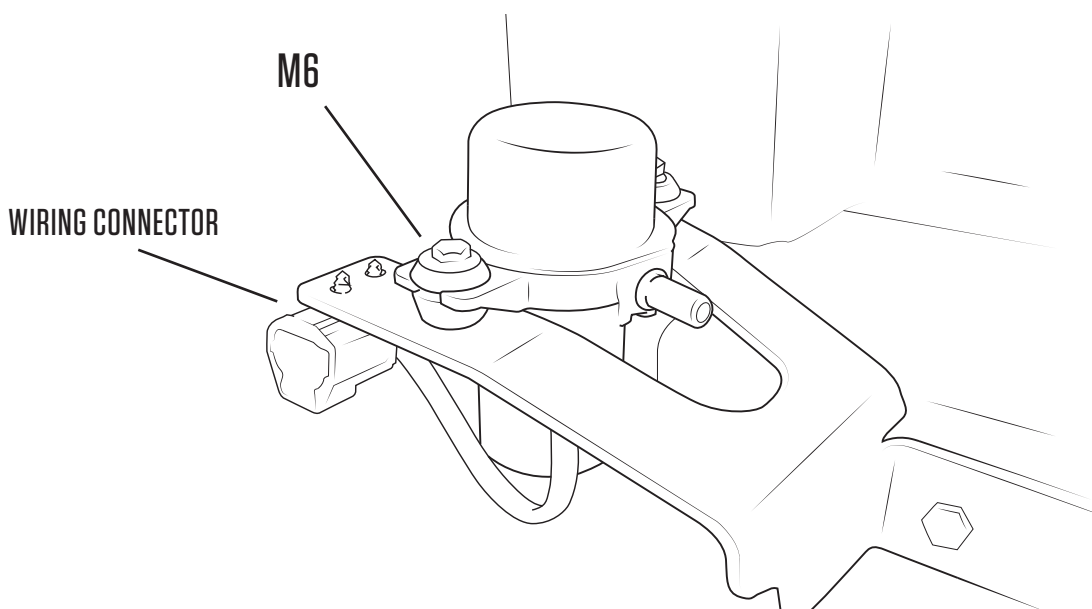

Figure 4
1. Mount the vacuum pump to the bracket (C) installed in step B-2, using the two (2) M6 bolts, nuts, and washers (Fig 4.) – Torque (7ft-# - 9 N-m).
8. Attach the wiring connector (Fig. 4) to the vacuum pump bracket. Tie-wraps are included in the fastener pack to secure harness away from vehicle components.